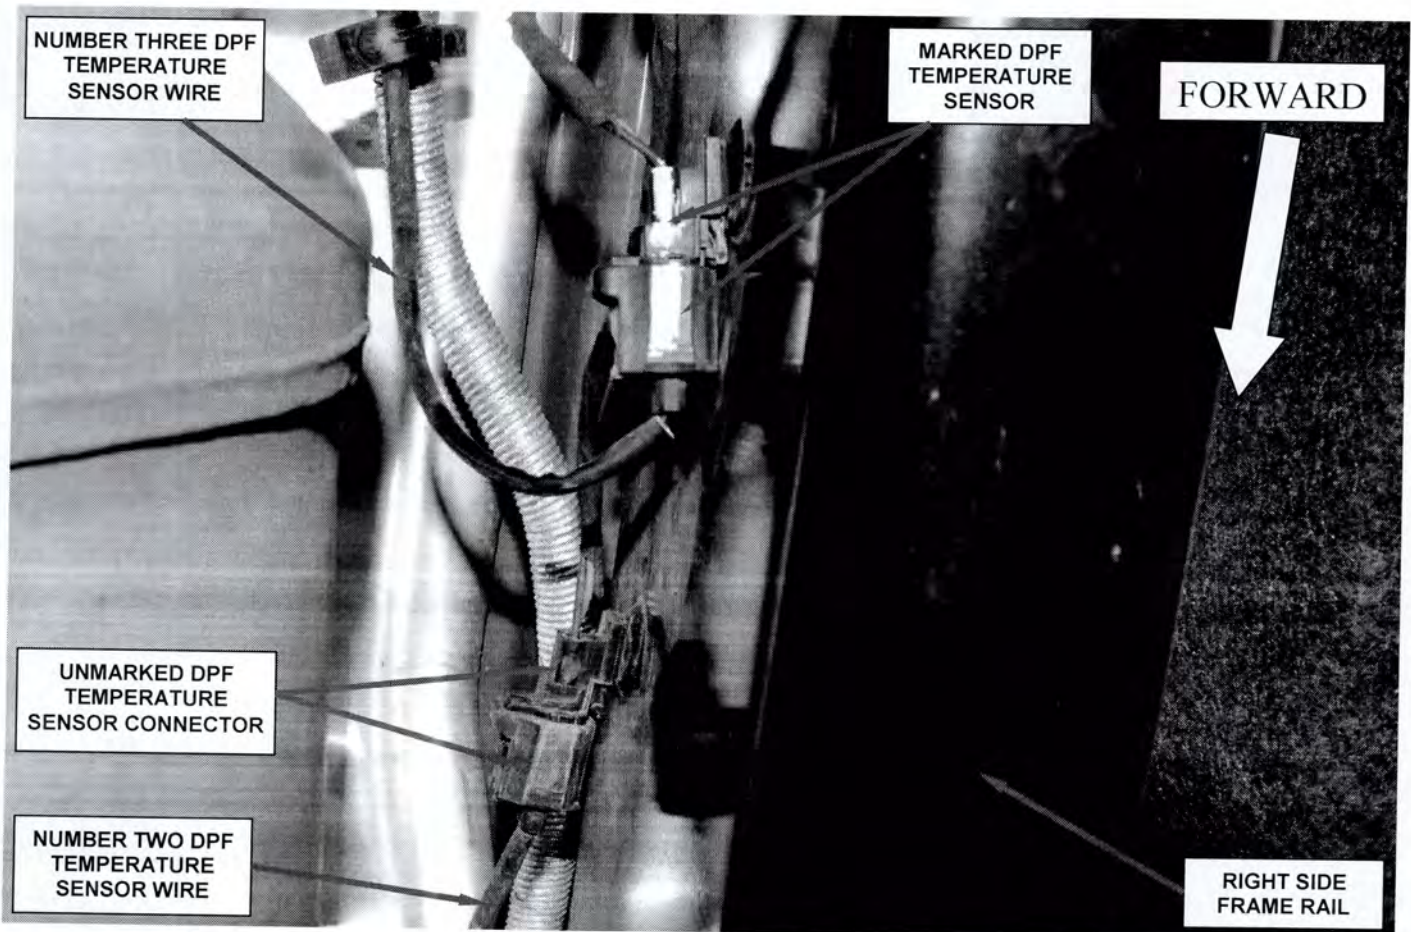

Figure 1 – Mark Number Three DPF Temperature Sensor Connector
2. Using a china marker or equivalent, place an identification mark on both sides of one of the Diesel Particulate Filter (DPF) temperature sensor electrical connectors (Figure 1).